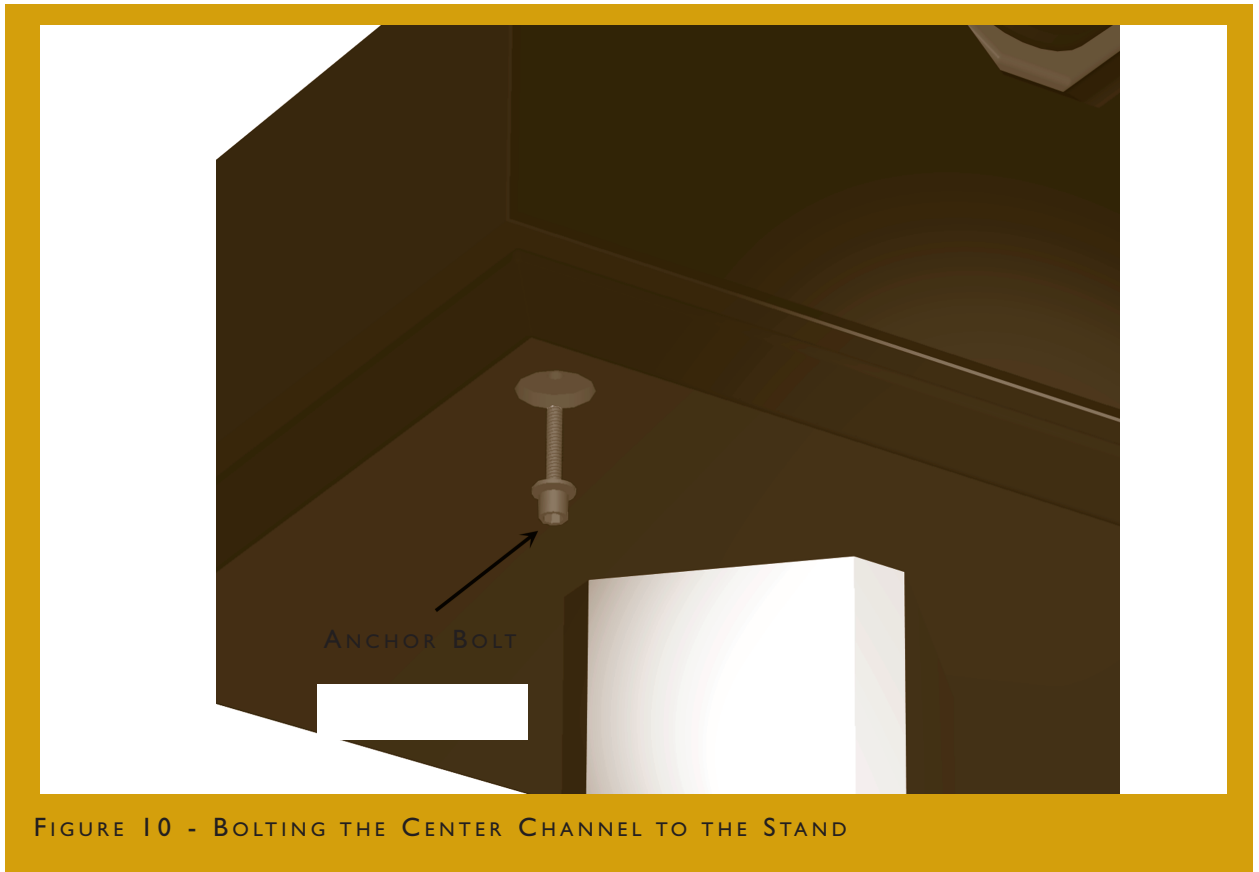

FIGURE 10 - BOLTING THE CENTER CHANNEL TO THE STAND
- Bolt the Center channel to the stand using the four 3/8"-16 threaded socket head capscrews and washer provided (see Figure 10).